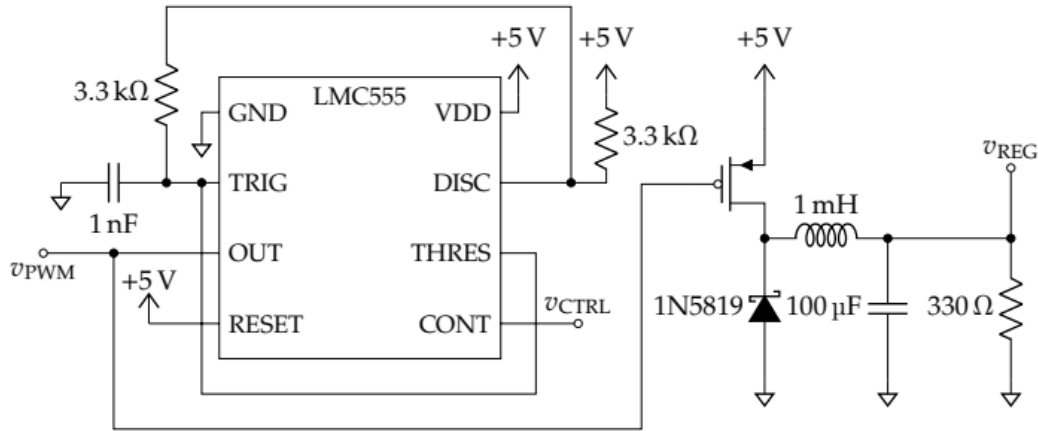

Figure 11.7: PWM Modulation Circuit
1. Construct the circuit in figure 11.7